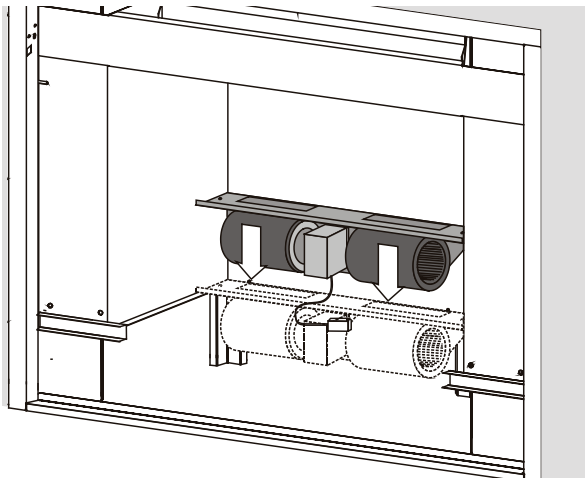

Figure 17. *Installing the blower assembly.*
7. Install the new blower assembly included with the S2 Heating Insert. The blower mounting bracket rests on the EP28 Shell's support ledges. Push the assembly back until it touches the back wall of the shell, and drive two screws through the pilot holes in the bracket. Refer to figure 17. Plug the fan into the fan speed